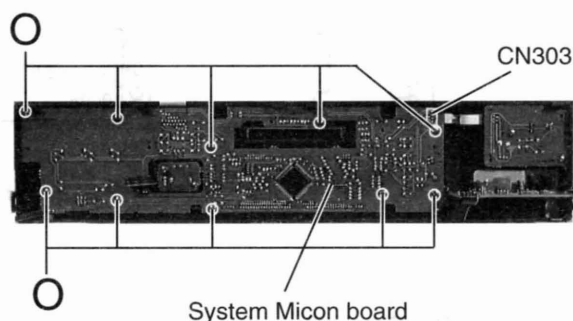

Fig. 16
■ Removing the System Micon Board (see Fig.16)
■ Removing the Power Switch Board (see Fig.16)